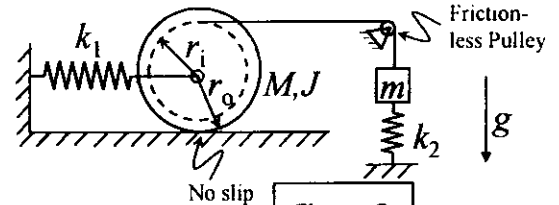

Figure 3
3. Using bond graph approach, find the degrees of freedom of the system shown in Figure 3. The spool mass and rotary inertia are M and J , respectively. The outer rim of the spool (radius r_o) is in contact with the ground, the rope is wound around the inner core (radius r_i) and there is no slip between the ground and the spool (pure rolling). If the system is initially in static equilibrium and a small disturbance is given then find its natural frequency of oscillation. Note that the system is linear and hence, gravity can be neglected while determining the natural frequency.